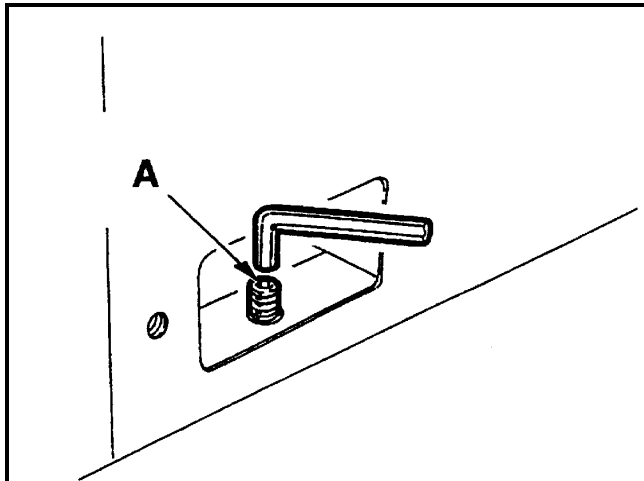

Fig. 05-01
- Insert grub screw "A" and screw it in until it rests on the floor (**Fig. 05-01**).
- Use a spirit level to check that the machine tables are perfectly flat; If they are not, make the necessary adjustments by turning the grub screws "A" (**Fig. 05-01**),